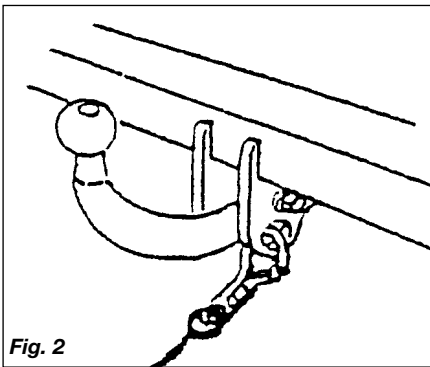

Fig. 2
⚠ WARNING: If the connector is not fully rotated anti-clockwise prior to removing it from the socket it is possible that the inner ring will become 'floating' and may result in a condition where the protrusion will be incorrectly aligned (see fig 2 & 3).
- Do not clip directly onto the designated point (figure 2) since the clip is not designed for use in this way.